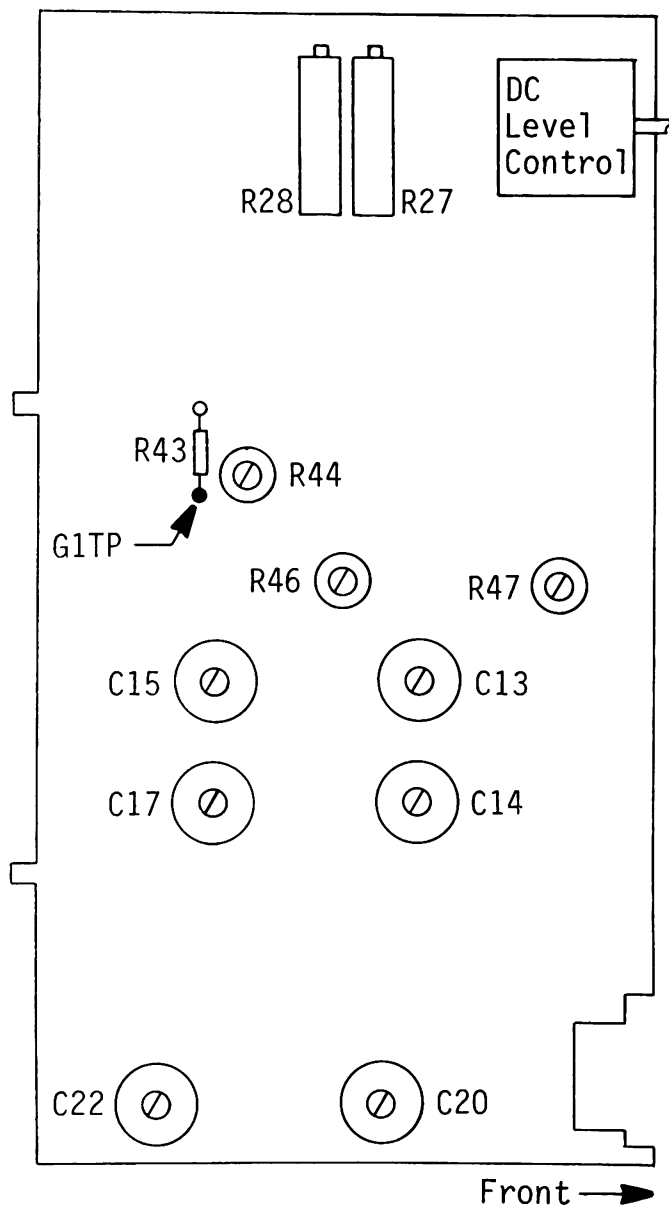

Figure 8 - Left side view
7. Connect multimeter to G1TP. (See Figure 8)
- b. Adjust R47 (Figure 8) until the trace is aligned with the horizontal marker line.
9. Adjust R27 (Figure 8) for the best straight line.
5. Adjust C20 (Figure 8) for minimum overshoot or undershoot.
3. Adjust C22 (Figure 8) for minimum overshoot or undershoot.
- 22. Adjust R28 (Figure 8).
12. Adjust C13 (Figure 8) for minimum negative cycle overshoot or undershoot.